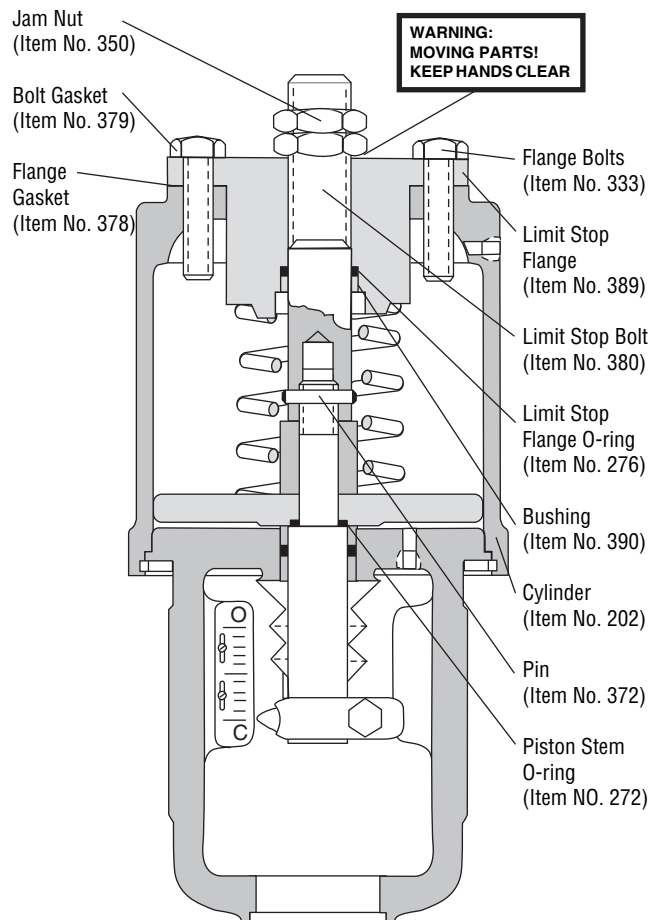

Figure 7: Pull-Only Limit Stop
Pull-Only Limit Stops (Linear Actuators Only, See Figure 7)
1. Loosen the limit stop jam nuts (see Figure 7).
Refer to figure 7:
Refer to Figure 7: